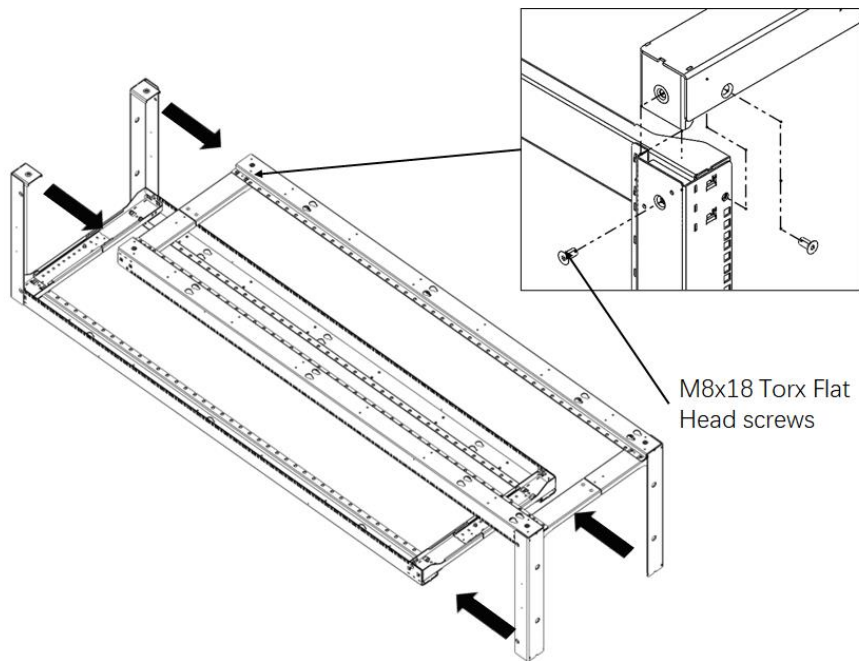

Figure 7
3) Assemble the two side frame kits together, fix four corners with 8 pcs M8x18 Torx Flat Head screws as shown in Figure 7. Torque=21.0N·m.